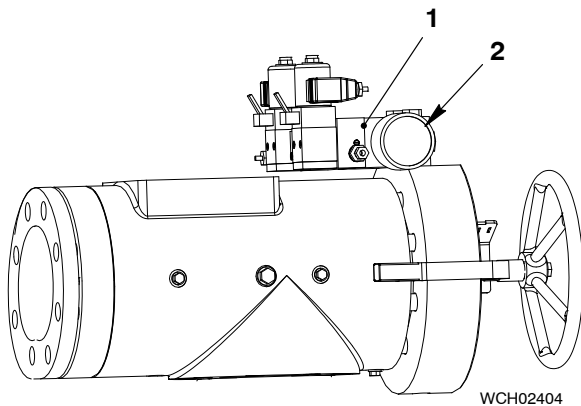

Fig. 4
- 20) Attach the silencer (2, Fig. 4) to the control valve (1).